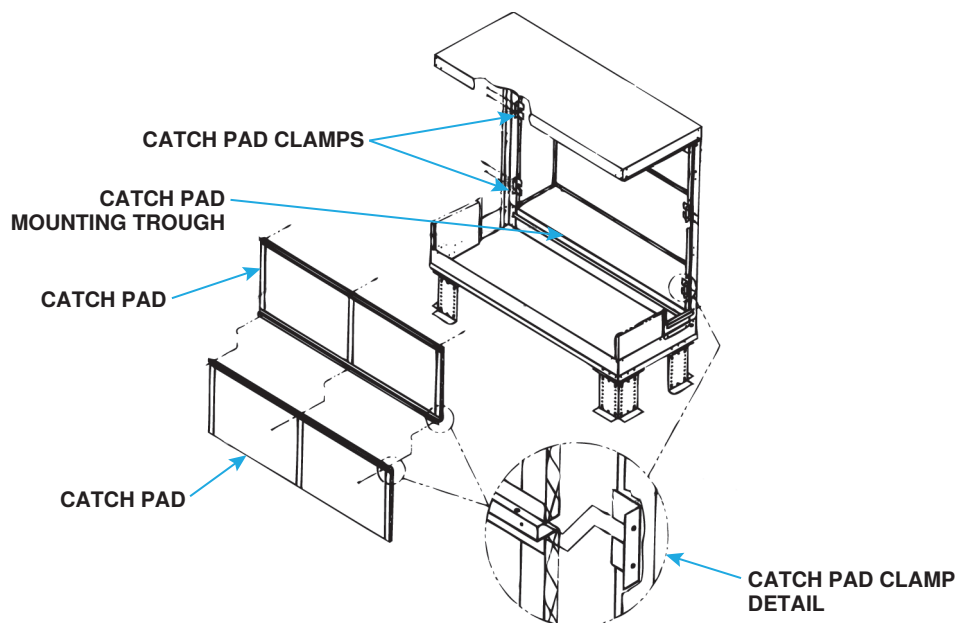

Figure 7. Catch Pad Assembly
2. Install moisture elimination pads if required (see Figure 7):
- a. Install two catch pad clamps to one side of cooling module's front legs and secure clamps through legs into clamp using four screws (8).
- b. Assemble catch pads together using three screws (8).